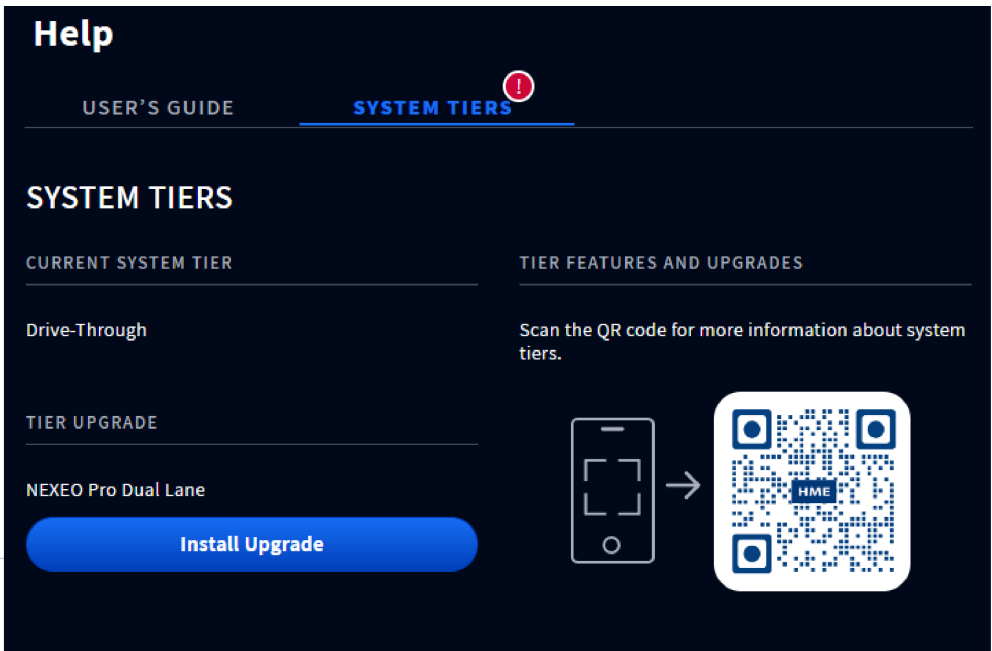

Fig. 6.3
**What is this screen for?** This tells you what service tier you have. Use the QR code to find out more about service tiers. If you decide to purchase a service upgrade, a red exclamation icon appears next to the SYSTEM TIERS tab. The blue “Install Upgrade” button will also appear. See Fig. 6.3. Tap/click on the button to install. The upgrade may take up to 10 minutes to install, so it is recommended that the installation is performed after hours or during slow business times.